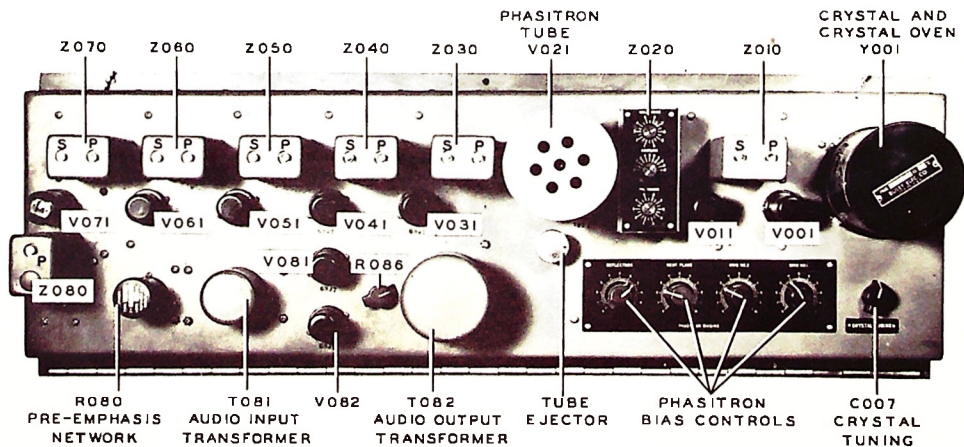

Figure 2-10 Exciter Chassis (Front View)
With the above power checks completed, insert the tubes into their respective sockets. Refer to figures 2-10 and 2-15.
(1) Turn SELECTOR switch to OSC. K.
(2) Tune the crystal oscillator tank (Refer to figure 2-10) capacitor, "P" of Z010, for a dip in cathode current. Continue to rotate the capacitor in a counterclockwise direction, which is on the high frequency side of resonance, until a point is reached where the frequency and plate current change very slowly. This is the most stable operating point of the oscillator. Frequency adjustments should be made with C007 and not the plate tuning capacitor.
(3) Turn the SELECTOR switch to the MOD. INPUT position.
(4) Tune the secondary of Z010 (Refer to figure 2-10) for maximum indication on the meter.